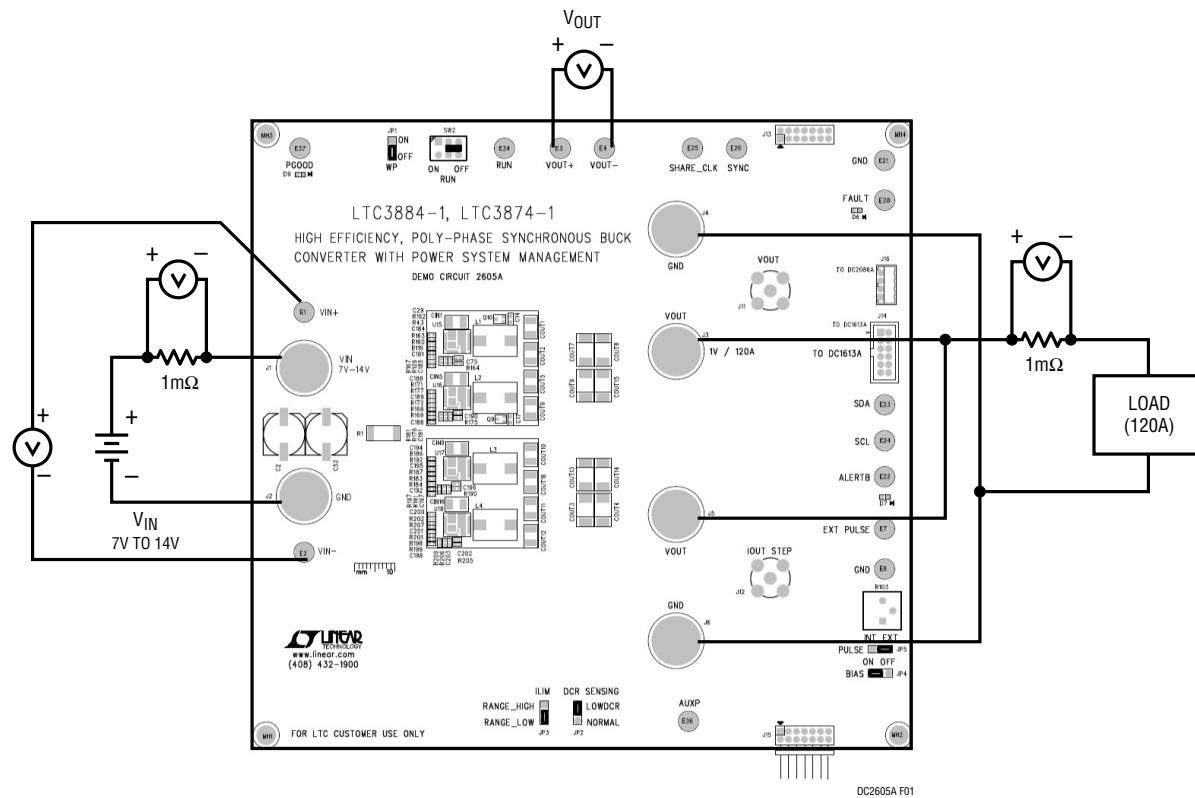

Figure 1. Proper Measurement Equipment Setup
Demonstration circuit 2605A is easy to set up to evaluate the performance of the LTC3884-1. Refer to Figure 1 for the proper measurement equipment setup and follow the procedure below.
2. Connect the output loads between  $V_{OUT}$  and GND (Initial load: no load). Refer to Figure 1.